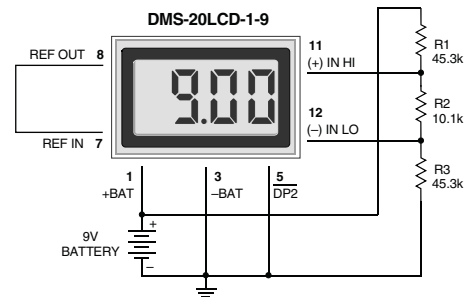

Figure 8. Power Supply Monitor (9V-Powered Models)
6. Power Supply Monitoring: A popular application for Murata Power Solutions' low-power LCD meters is monitoring the supply voltage in battery-operated portable equipment. Figure 8 demonstrates how a 9V-powered DMS-20LCD can be used to monitor its own supply. The meter used is the DMS-20LCD-1-9. A three-resistor voltage divider is used to attenuate the battery voltage and also to satisfy the requirement that the input voltages applied to pins 12 and 11 be at least 1.5 Volts above and below the battery voltage applied to pins 1 (+BATTERY) and 3 (-BATTERY). The divider should be designed so that 1/10th the battery voltage falls across the inputs to the meter: